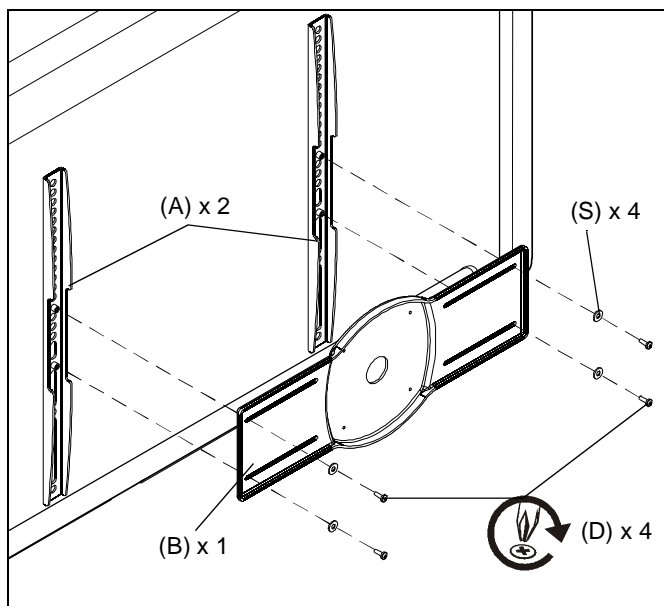

Figure 3
8. Attach center bracket (B) to vertical mounting brackets (A) using four M4 x 12mm Phillips head screws (D) and four #10 flat washers (S). (See Figure 3)